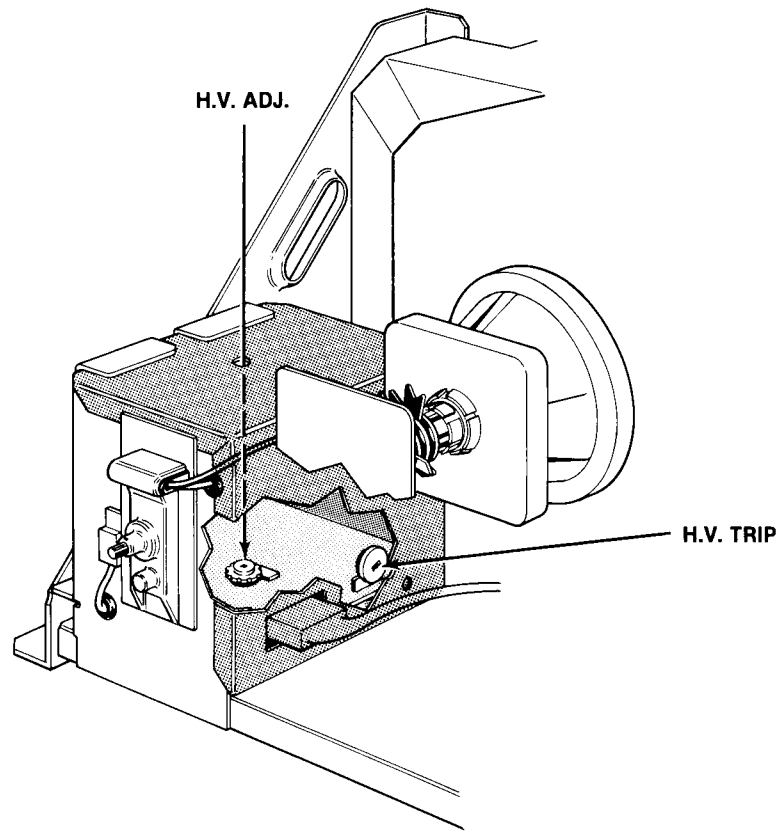

Figure 5 Adjustable Controls on High-Voltage PCB
4. Rotate H.V. TRIP control R930 to its fully counterclockwise position. Figure 5 shows the location of this control.
5. Rotate H.V. ADJ. control R918 to its fully counterclockwise position. Figure 5 shows the location of this control also.